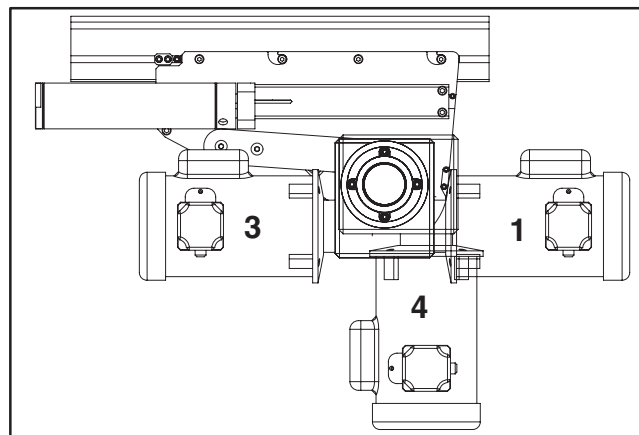

**Figure 13**
1. Locate components of Figure 13.